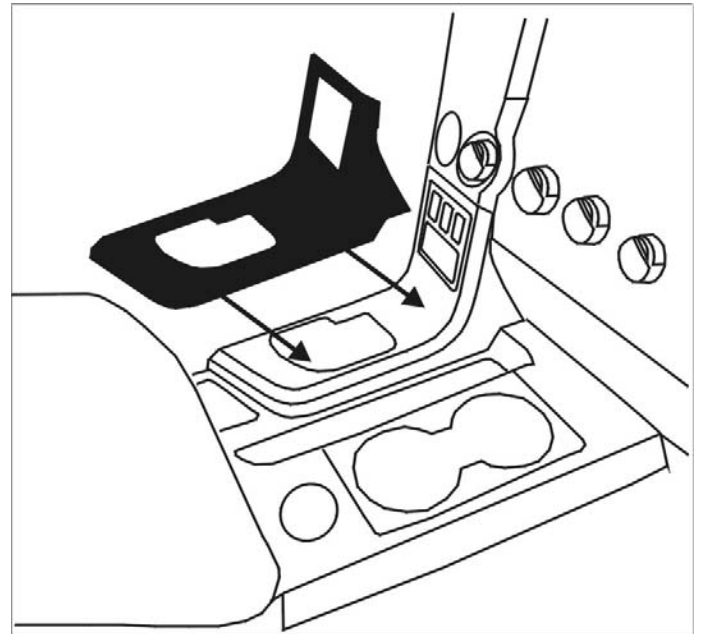

Fig. 4-1
- ⚠ (1) Remove the black center console (area including cupholder) by lifting from the upper back area. Set aside until center console dash applique is secured.
(2) Align part uniformly to the edge of factory door component aligning all switch openings. (Fig. 4-1)
(3) Slide the right side of the part into the groove between the factory core and the dash.
(4) Gently touch part into position.
- ⚠ (5) Reinsert the black center console, snap into place.